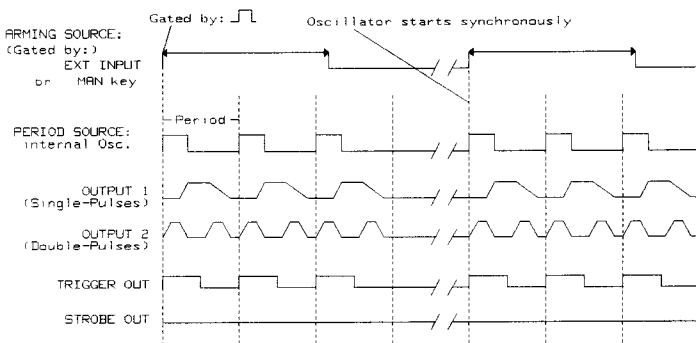

Figure 3-13.
Figure 3-13 does not show the intrinsic fixed delays between the EXT INPUT and the TRIGGER/STROBE OUT signals, and between the TRIGGER OUT and the main OUTPUT 1/2 signals. Refer to Chapter 6 for the typical values of these delays.
- internal Osc (Start of pulse synchronized to trigger, see Figure 3-13)